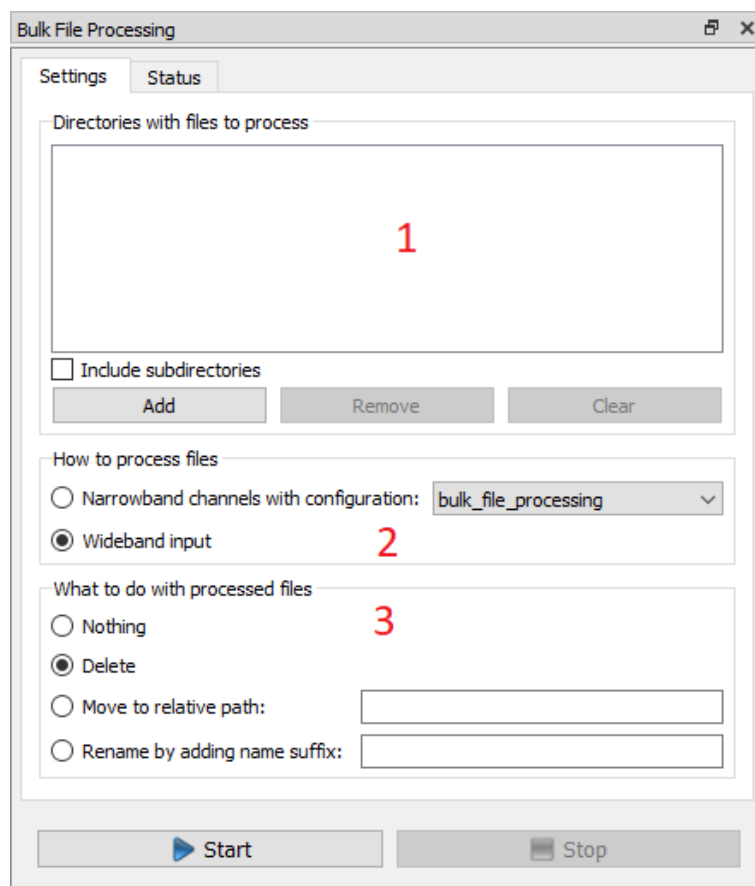

Figure 210: Dialog with settings of bulk file processing
There are three settings that the user must make before starting bulk file processing (see Figure 210).
Directories to be searched for signal files by bulk file processing are shown in the list at (1) in Figure 210. Click the <Add> button to add directories to the list. Individual entries can be marked by clicking in the list and deleted from the list by clicking the <Remove> button. Clicking the <Delete All> button removes all entries from the list.
In order to play the signal files in narrowband channels, the option <Narrowband channels with configuration> (2) in Figure 210 must be selected. If bulk file processing is started with this option, all open narrowband channels will be closed first.
After processing for a file is complete, there are four ways to proceed with the file (see (3) in Figure 210):